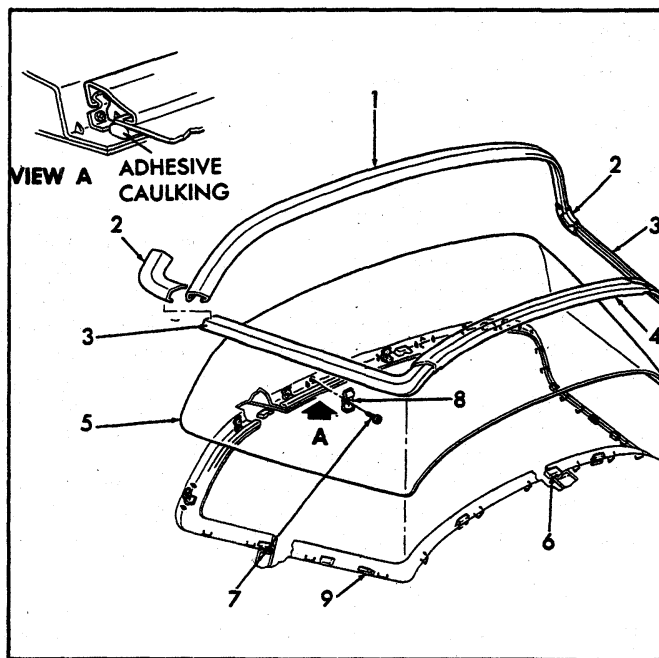

Fig. 55—Rear Window Glass and Reveal Moldings
For parts identification refer to Figure 55.
9. Using weatherstrip adhesive, cement rubber spacers at bottom, sides, and top of window opening. The step-type spacers are used at bottom and sides, the flat type are used at the top, sides, and bottom of window opening as shown on Figure 55.